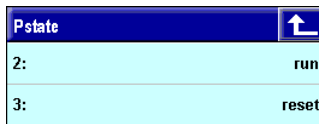

Fig. 74: Selection list "Pstate"
3. **Select "Reset" status:** Select the "reset" status (see Fig. 74).